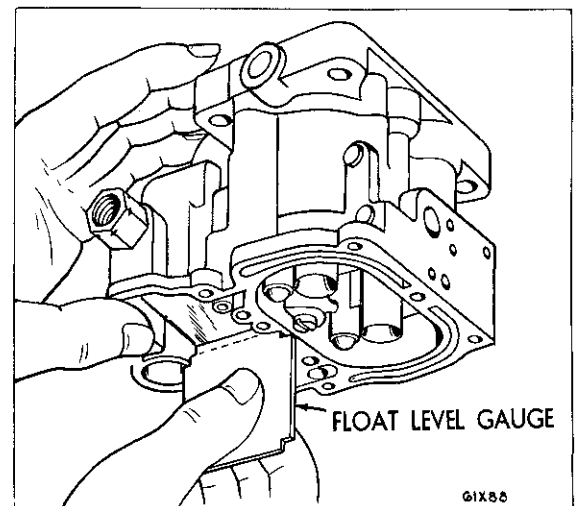

Fig. 40—Testing the Float Setting
(3) Invert the main body so that the weight of the float only is forcing the needle against the seat. Hold finger against the retainer to fully seat the fulcrum pin.
(4) Using Tool T109-230, or a "T" scale, test the float, as shown in Figure 40. There should be $\frac{3}{32}$ inch from the surface of the fuel bowl to the crown of each float at the center.